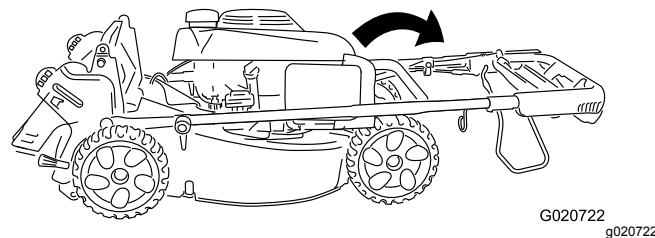

Figure 5
2. Carefully move the upper handle forward until the handle halves are in line and nest together as shown in Figure 5.